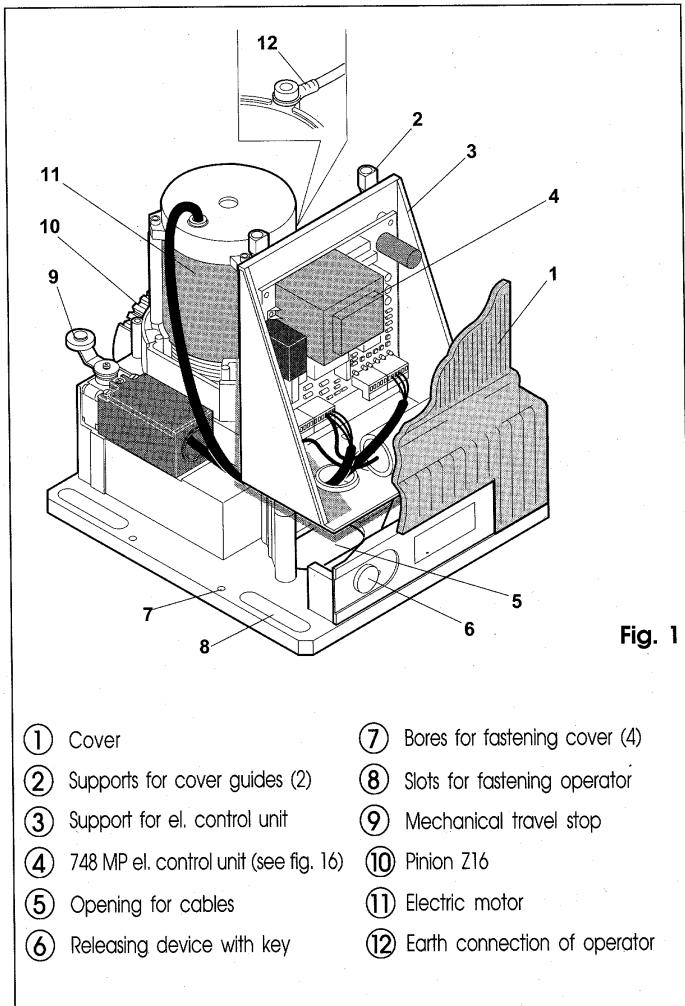

Fig. 1
- 6) Fasten the operator to the base plate by means of the screws and washers supplied, as shown in fig. 6. The positioning of the operator is shown in fig. 5. Pass the electrical cables through the relevant opening (fig. 1 - ref. 5) on the base of the operator.